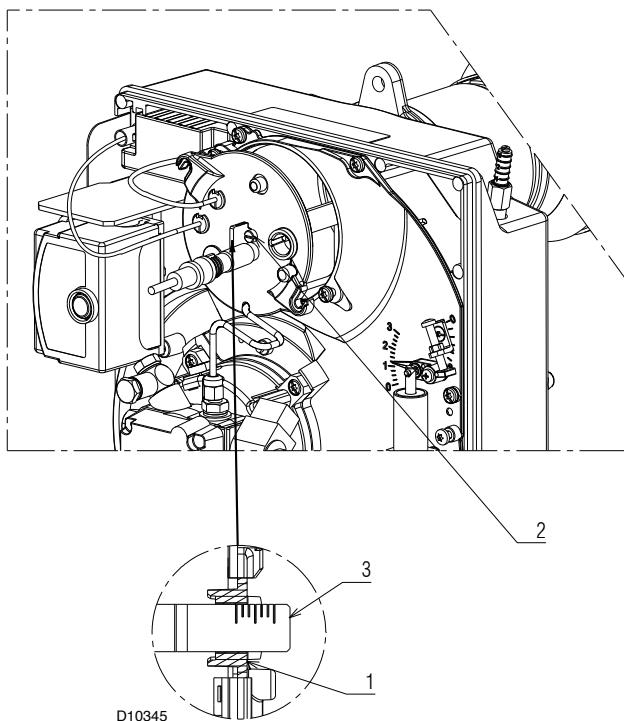

Fig. 16
- Rotate the adjustment screw 2) (Fig. 16) clockwise or anti-clockwise until the notch on the regulating rod 3) is level with the outer surface of the nozzle-holder assembly 1).